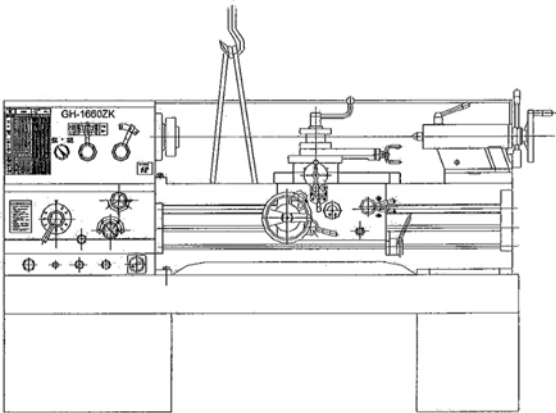

Figure 4 – Lifting the lathe
7. With properly rated lifting equipment, slowly raise lathe off shipping pallet. (see Figure 4). **Do not lift lathe by the spindle.**